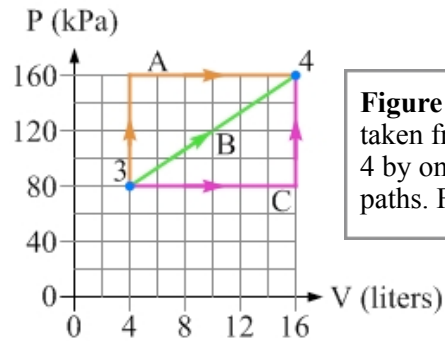

Figure 15.24: A system is taken from state 3 to state 4 by one of three possible paths. For Exercise 15.
15. A system of ideal gas can be taken from state 3 to state 4 by three different paths labeled A, B, and C on the P-V diagram in Figure 15.24. Assume the gas is diatomic. For each of the three paths, calculate (a) the work done by the gas; (b) the change in internal energy of the gas; (c) the heat transferred to the gas.